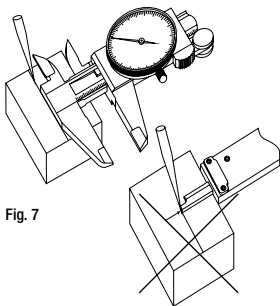

Fig. 7
- **Scribing Face:** adjust the reference face for scribing (11) to the part reference and move the slide (5) to the chosen measurement, lock it and then scribe (fig. 7)